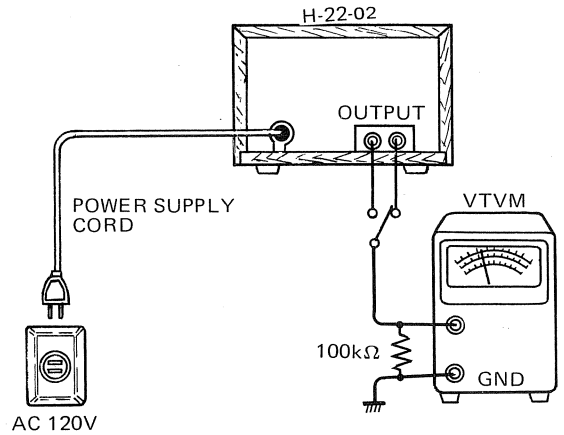

Fig. 5
3. Connect according to Fig. 5 and insert test tape P-328.
1. Connect according to Fig. 5 and insert test tape PST-4.2.